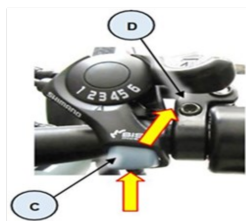

Figure 2
There may be slight variations between bicycle models in the method to change gear "up" (from a lower gear to a higher gear) or to change gear "down" (from a higher gear to a lower gear). The image shows a cassette that uses a button as shown in Figure 2 (C), for changing up gears (push the button to activate the derailleur) and a lever (Figure 2 (D)) for changing down gears (rotate the lever forward to activate the derailleur).